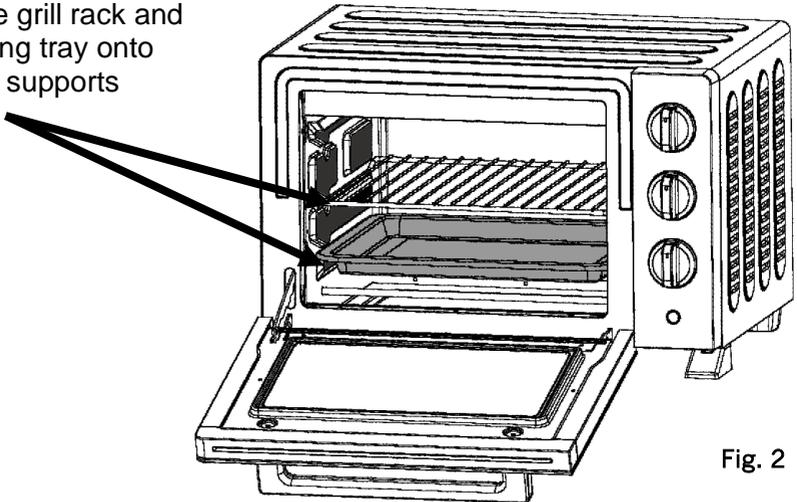

Fig. 2
- Where to fit the baking tray and rack – see fig. 2
- Slide the grill rack and / or baking tray onto the rack supports (fig. 2)
- If placing food directly onto the grill rack, fit the baking tray into the lower oven rack rest to act as a drip / crumb tray (fig 2 & 11).